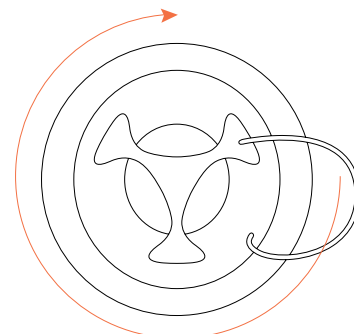

Fig 12 – Inflation valve with cap on, replace cap clockwise
If using the Monometer (not provided) follow the instructions of the manufacturer to check the Pressure. When finished, remove the Manometer and either replace the main inflation valve protective cap (Fig 12), continue inflating with either the Bravo OV10 pump or the Stirrup pump depending upon your desired pressure.
17. When finished, remove the Stirrup Pump by turning the nozzle anticlockwise and replace the main inflation valve protective cap to help ensure air tight integrity (Fig 12).